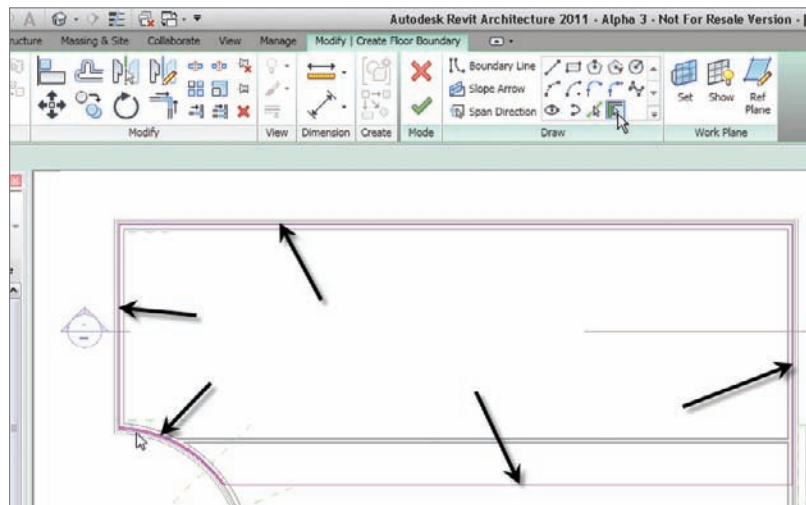

FIGURE 10.57 Adding the floor outline to the walls. Be sure to offset the line 5'-0" from the south wall. This will be the stair landing.
8. Pick the walls, and make sure the lines are set to the core centerline, as shown in Figure 10.57.
9. When picking the south wall, set the offset to 5'-0" in the Options bar, as shown in Figure 10.57.